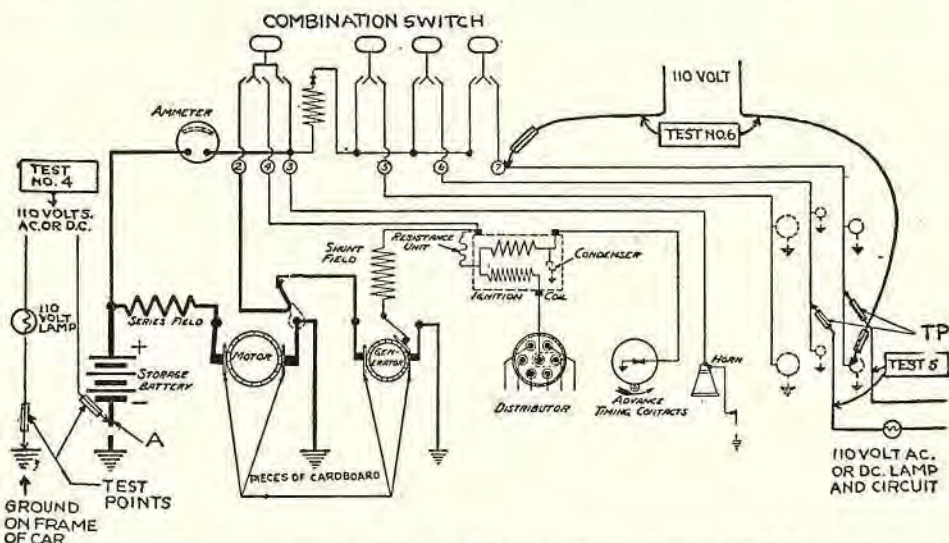

Fig. 1. Diagram explaining how to use a test light for testing for open circuits, grounds, and short circuits in the lighting circuit of a car or wiring system.
A single-unit Delco electric system, using a single-wire grounded return wiring circuit is shown in Fig. 1 as an example. The tests however will apply to many of the other systems. The idea here is to point out how to make the tests for the different external circuits.
2. Place a piece of cardboard between the commutator and the brushes of the motor and the generator (third brush also). See Fig. 1.
If some of the lights only do not operate, connect the instrument as just described and close the switch for the branch containing those lights, for instance, between switch 7, Fig. 1, and the light circuit. An indication will be obtained if the branch contains a short circuit or ground. If a short circuit is indicated, the wiring and light sockets should be carefully examined.
Open circuit: Connect the 30-ampere range shunt and instrument in the horn circuit, between the switch terminal 3 (Fig. 1) and the horn circuit. Close the horn switch. If no indication is obtained, the horn circuit is open-circuited. By inspection, the place at which trouble exists can readily be found.